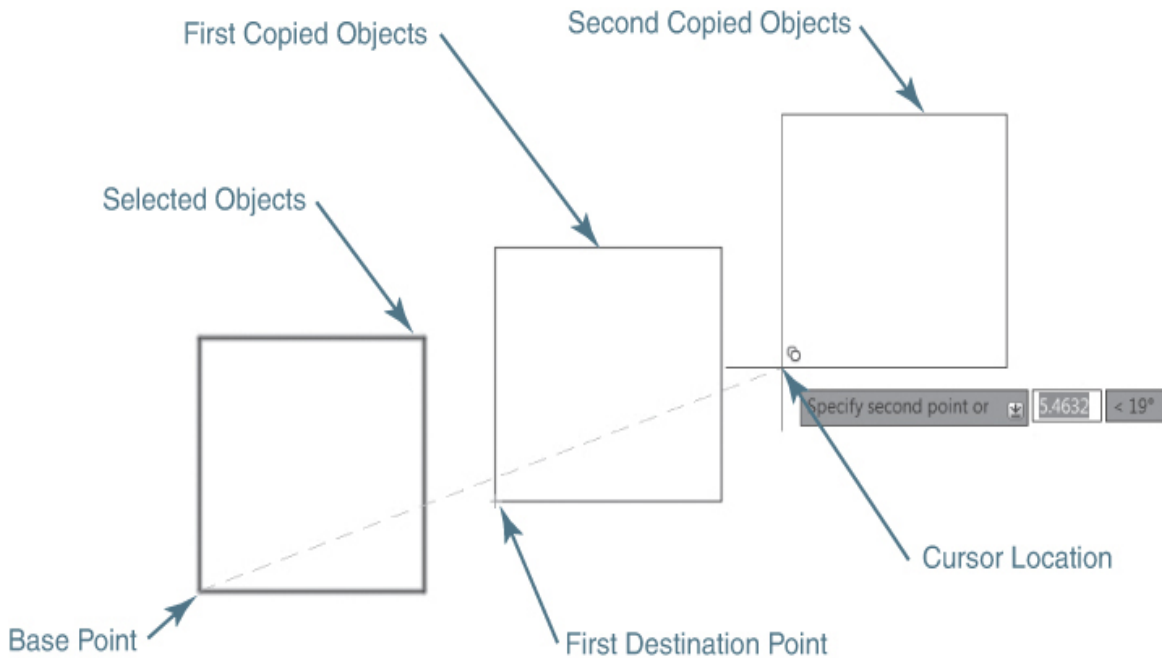

Figure 7-26
If you use the first option and specify a base point, AutoCAD remains in the **COPY** command after the first copy is created so that it is possible to make multiple copies by specifying multiple destination points. After making the first copy, AutoCAD repeatedly prompts you to *Specify second point or ↓* until you end the command, as shown in Figure 7-26.
- 5 Continue to pick points to make multiple copies, as shown in Figure 7-26.